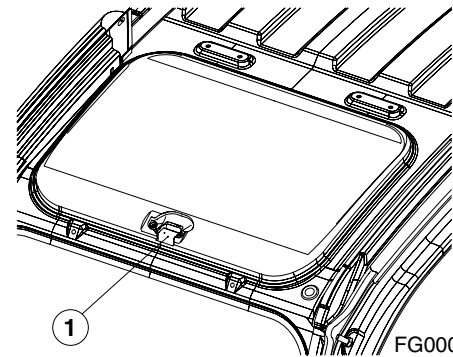

**Figure 148**
2. Set safety lever (Figure 148) on "LOCK."